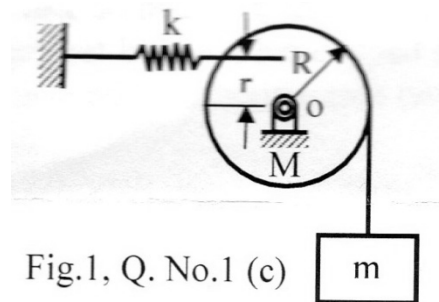

Fig.1, Q. No.1 (c)
c. A mass 'm' hangs from a chord attached to a circular homogeneous disc of mass 'M' and radius 'R' as shown in Fig.1 Q. No. 1(c). The disc is restrained from rotation by a spring attached at a radius 'r' from the centre. Determine the natural frequency of the system for vertical oscillations of mass 'm'.